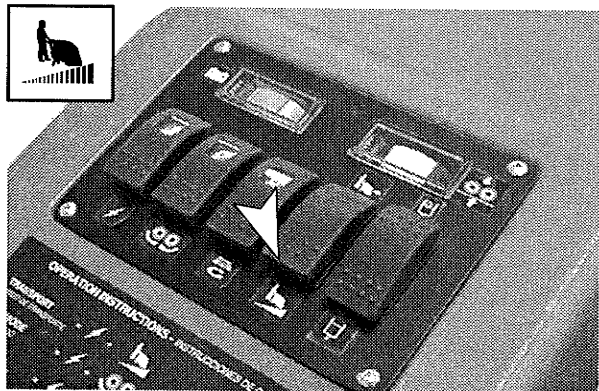

FIG. 16
- Press drive switch toward the variable speed symbol (Figure 16).